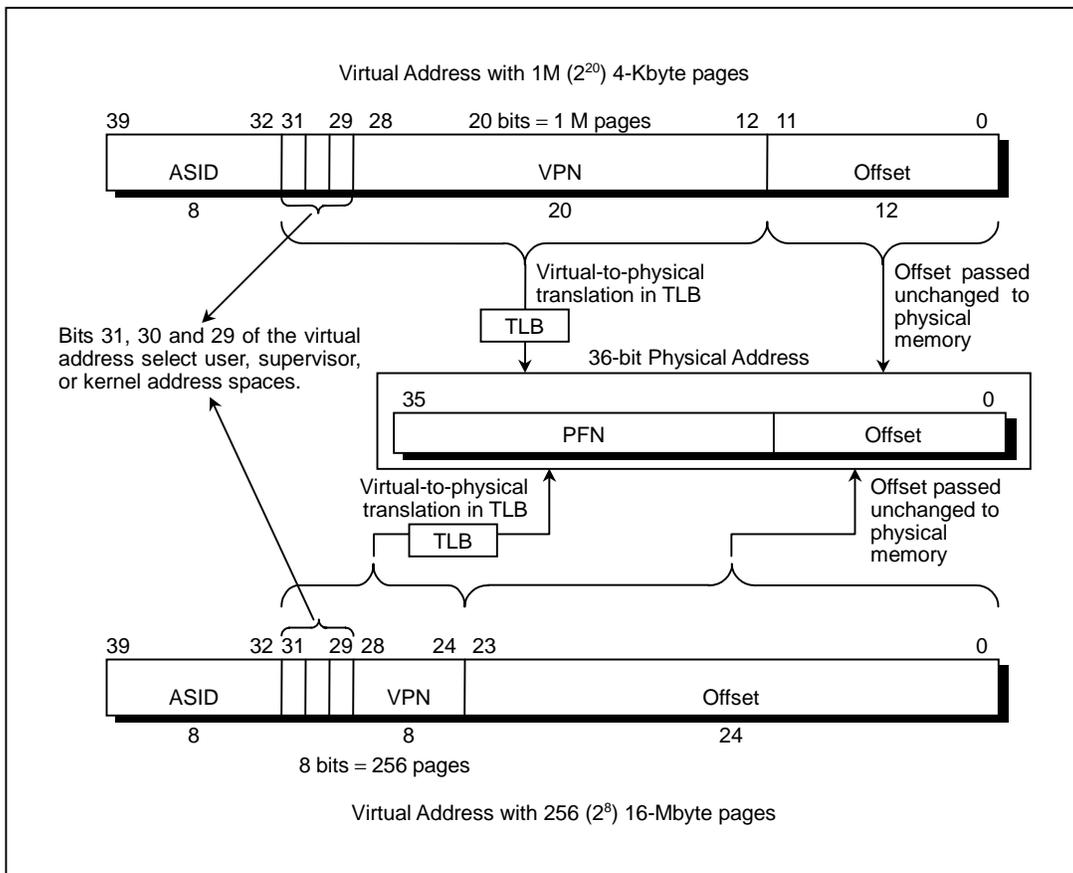

Figure 8-1 32-bit Mode Virtual Address Translation
- The top portion of Figure 8-1 shows a virtual address with a 12-bit, or 4-Kbyte, page size, labeled *Offset*. The remaining 20 bits of the address represent the VPN, and Index the 1M-entry page table.
- The bottom portion of Figure 8-1 shows a virtual address with a 24-bit, or 16-Mbyte, page size, labeled *Offset*. The remaining 8 bits of the address represent the VPN, and index the 256-entry page table.